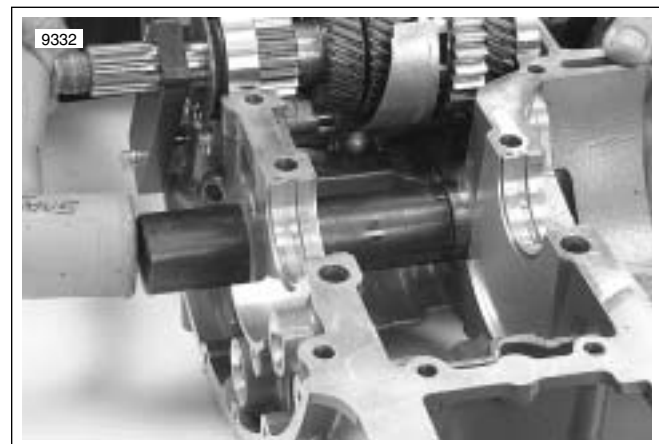

Figure 3-171. Inner Balancer Bearing Installation
4. See Figure 3-171. Using the bearing installer from the BALANCER BEARING REMOVER/INSTALLER TOOLS (HD-45490) drive the inner counterbalancer bearing into the case with a soft faced hammer, until the retaining ring groove is visible.